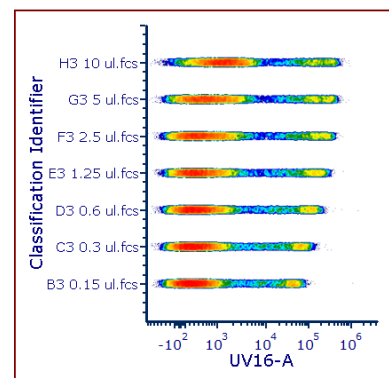

Figure 11 – Merged file on a density plot
- Change the X axis parameter to the fluorescence parameter for the antibody. (*Figure 11*)
- Change the Y axis parameter to Classification identifier. (*Figure 11*)